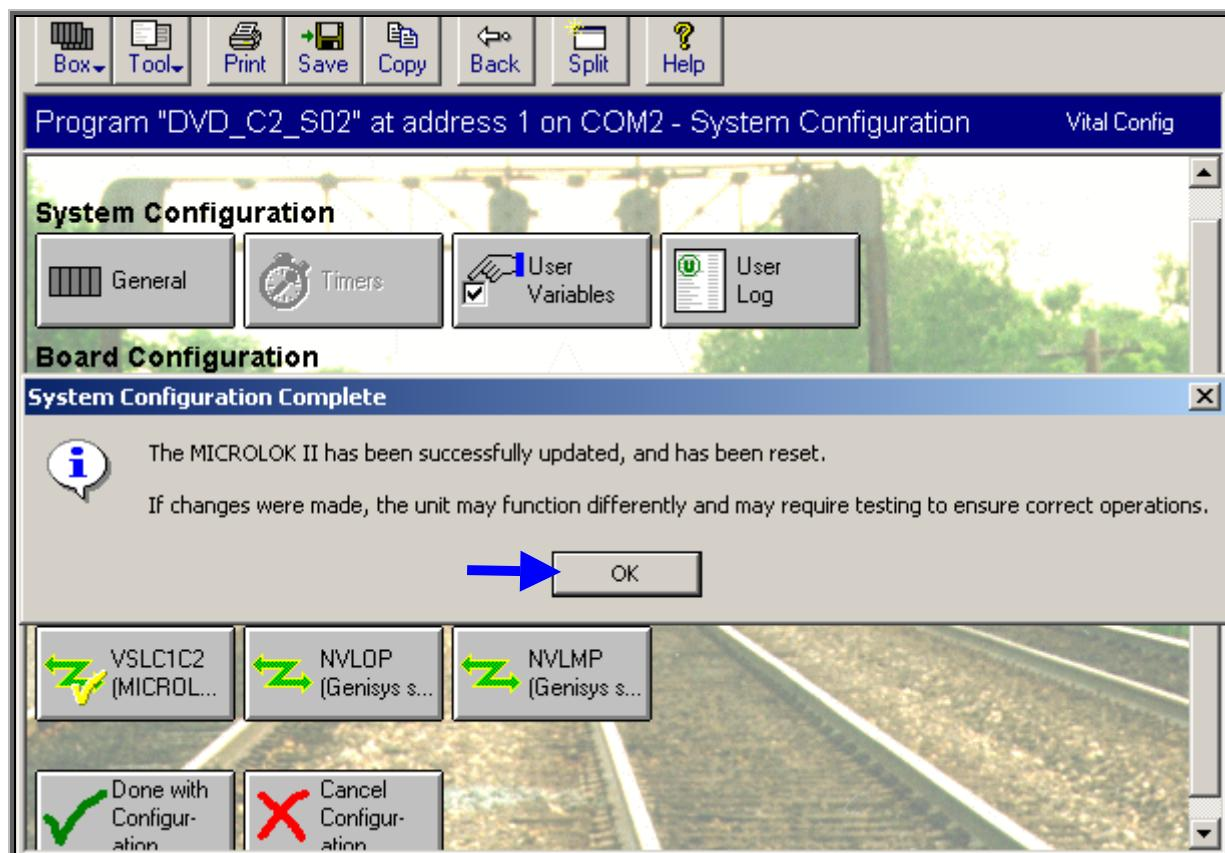

Figure-7.6.6
- ❖ On completion of system reset process, “System Configuration Complete” dialogue box appears as shown in Figure-7.6.6.